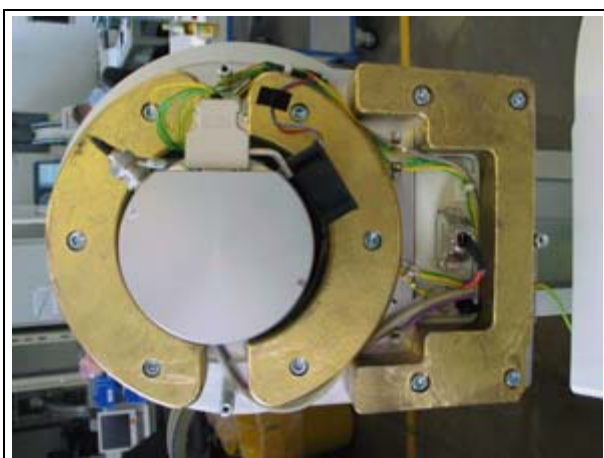

Fig. 19: view
3. Remove the counterweights from the I. I. (Fig. 19 / p. 44)
4. Disconnect all cables, cable ties and clips from the I.I. and the camera (Fig. 19 / p. 44)
3. Reinstall and connect all cables, cables ties and clips back to the I. I. and the camera (Fig. 19 / p. 44).